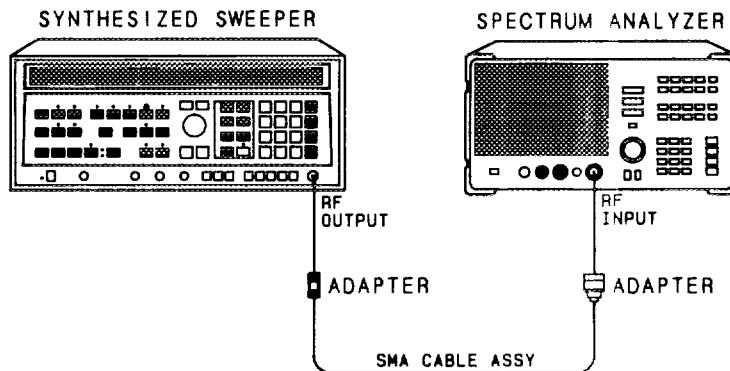

Figure 3-13. Frequency Readout and Frequency Count Accuracy Test Setup
1. Connect the equipment as shown in Figure 3-13.